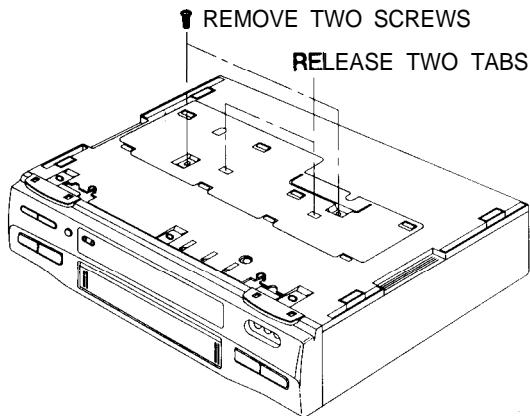
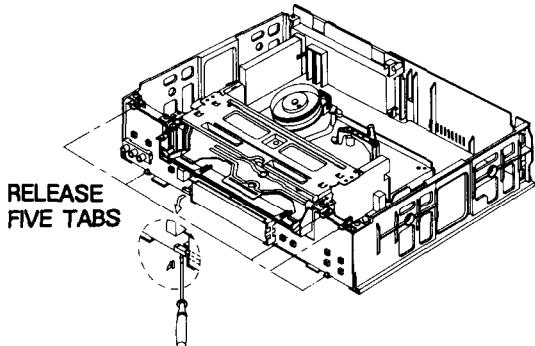

Fig. 1 Bottom Cover Removal
Fig. 4 Function PCB Removal
1. Remove bottom cover and top cabinet (See Fig. 1 to 2).
2. Release three (3) tabs from the bottom of the front panel.
3. Release four (4) tabs from the top of the front panel.
1. Follow the procedures for removing the bottom cover, the top cabinet and the panel front. (See Fig.1 to 3)
2. Release five (5) tabs on the function board.
3. Release connector(CN701) gently with using the Driver as shown Fig. 4
1. Follow the procedures for removing the bottom cover, top cabinet and the front panel ass'y (See Fig.1 to 3)
2. Remove four (4) screws from the bottom and top of the deck ass'y.
3. Remove two (2) screws from the bottom of the frame.
- 1 .Follow the procedures for removing Fig. 1 to 6
- 2.Release three (3) tabs from the frame.
4. Release connector (CN701) gently with using the Driver as shown Fig. 4
5. Remove screws (④, ⑤, ⑥, ⑦, ⑧) holding the deck and follow the procedures on next page.